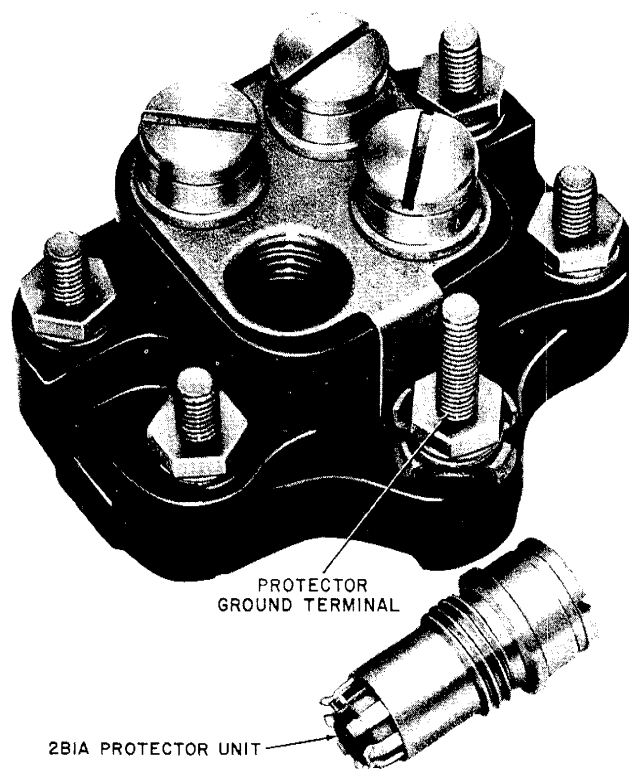

Fig. 2—128A1A-2 Protector
2.04 The 128A1A-2 Protector consists of a base of insulating material containing five binding posts and four 2B1A Protector Units (Fig. 2).